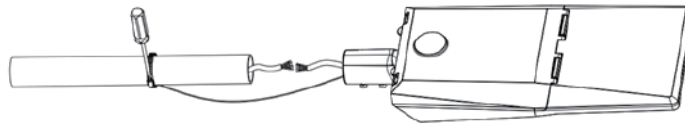

Figure 2. Installing the safety rope.
- Take the safety rope from the LED street light, put the clamp on the safety rope into the light pole, and tighten the clamp with a flat-blade screwdriver to fix the clamp on the lamp pole. As shown in Figure 2.